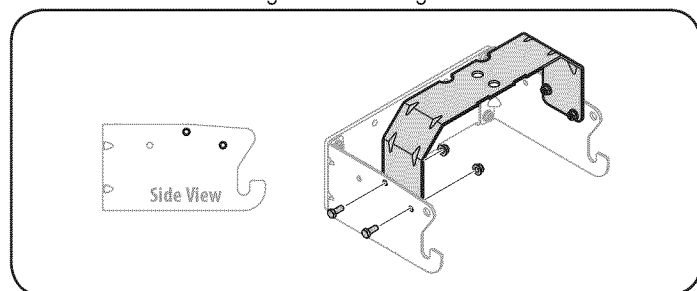

Figure 4
- **For Models 247.28901, 247.28911, 247.28902, 247.28904, 247.28919, 247.28905, 247.28881, 247.28883, 247.28884, 247.28885, 247.28886:** Mount the hitch support using the holes closest to the mounting hooks. See Fig. 4.